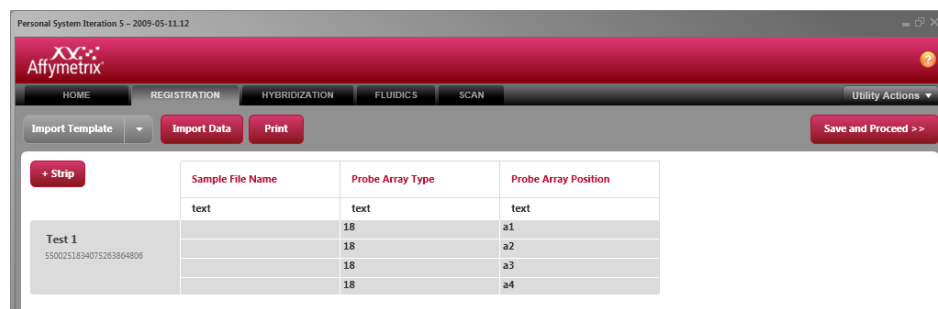

Figure 13 Array strip added to Registration window.
- Enter or scan the array strip **Bar Code** and enter a **Strip Name**, then click **Add**. The array strip is added and appears in the Registration window (Figure 13).